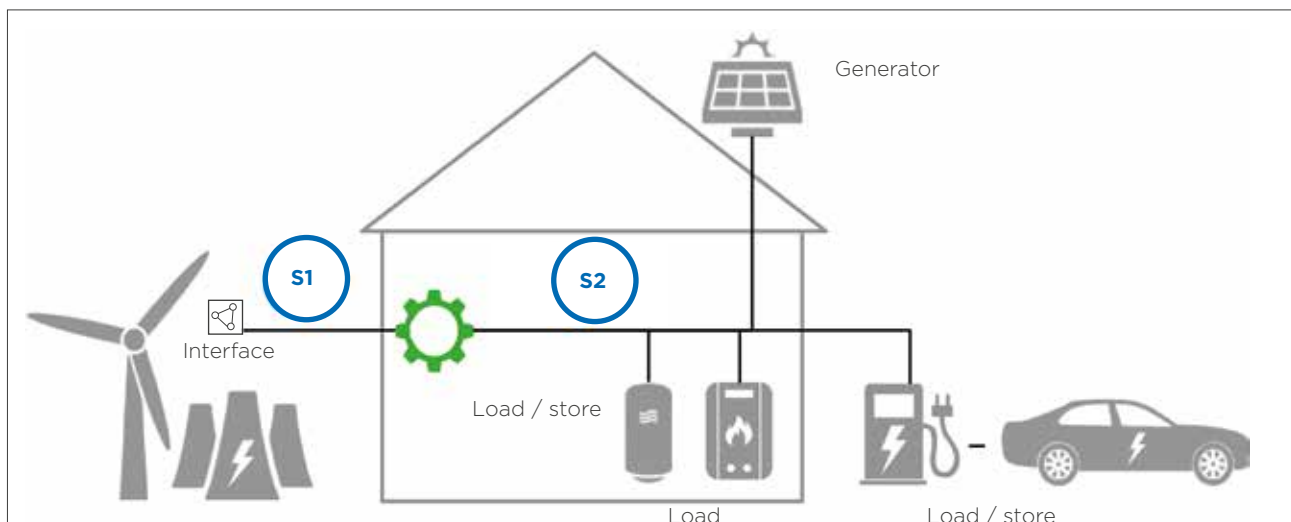

Figure 1. Players and interfaces for energy management
Figure 1 defines the basic set-up, including the necessary subscribers or terminal equipment for energy management. There is also a distinction between local and global energy management. Local management can be viewed with a degree of simplification as open-loop control of the (local) household area or the equipment present in it; merging into a larger unit, e.g. an entire street with several houses is possible. With local management, the CEM - as the central unit - is always the contact for the subscriber (see I2 Interface). Global management is related to the complete network/energy associations and less to individual terminal equipment (see I1 Interface). As mentioned already in the introduction, the subject of sector coupling plays a significant role at a global level.
- Can be inside or outside a building (in figure 1, fitted inside)